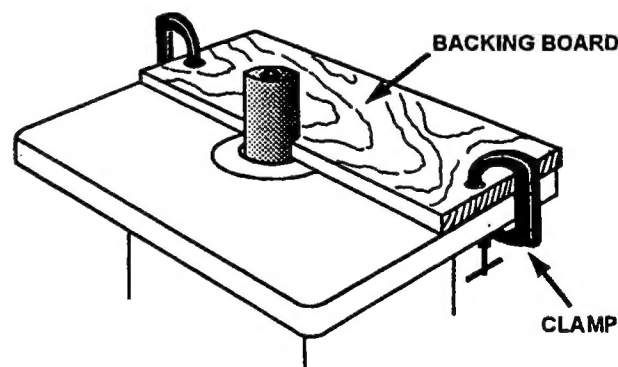

FIGURE 2
6. When sanding small or thin pieces of material a backing board should be used. A backing board is made by using a piece of wood cut to the width of the table (**Figure 2**). Push the board into the spindle until a half circle is formed. This board should then be clamped to the table and the small workpiece can be easily sanded.